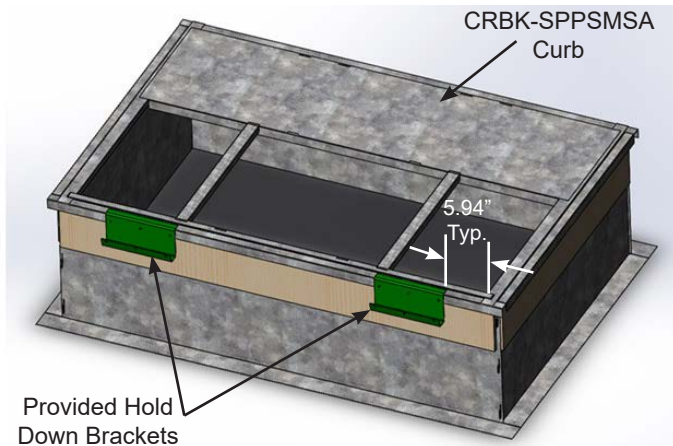

Fig. 5 - Hold Down Brackets For CRBK-SPPSMSA Curb used with Large Cabinet Unit
IMPORTANT: The CRBK-SPPSMSA-**1H is designed to fit small and large cabinet SPP units. The large cabinet unit will have significant overhang, and provided brackets must be installed before unit is set. See Fig. 5 and 6.
- When using the CRBK-SPPSMSA curb with the large cabinet install hold down brackets per Fig 5 and 6. Holes are pre-punched on curb flange for locating purposes. Brackets must be installed before unit is set on curb.
Failure to follow this warning could result in personal injury or death. When installing the large cabinet unit on the CRBK-SPPSMSA curb (see Fig 4), the provided hold down brackets must be installed on the curb before unit is set in place and attached to the unit to keep unit from tipping, See Fig 5 and 6.